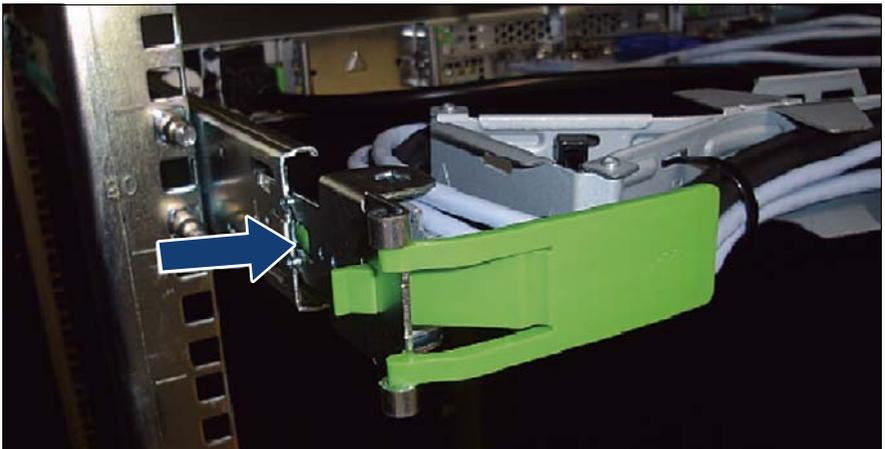

Figure 70: Unlocking the CMA stopper
- ▶ Push the lock spring inward to unlock the CMA stopper (see figure 70).